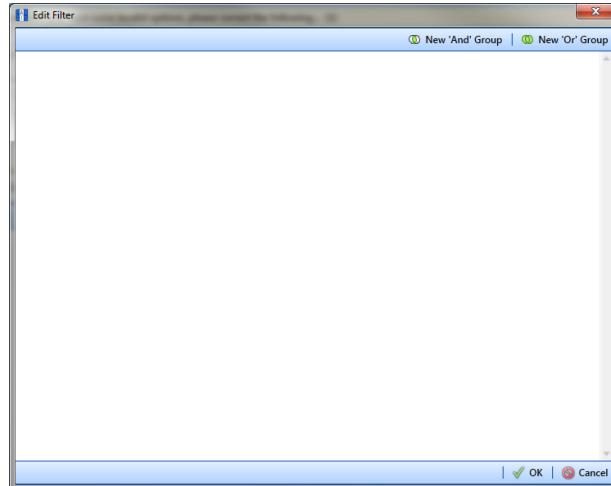

Figure 10-44. Edit Filter
- 7 If you want to set up one or more filters that apply to *all* data items in the definition file, click  **Edit** in the *Filters* group box to open the *Edit Filter* dialog box (Figure 10-44, page 531).